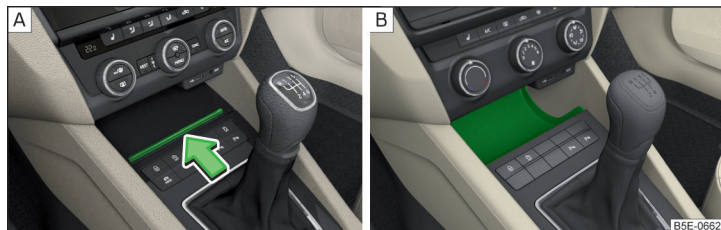

Fig. 80 Opening storage compartment/ non-lockable storage compartment
- » To **open**, press the ridge in the direction of arrow » Fig. 80 - **A**.
Certain models do not have a storage compartment lid » Fig. 80 - **B**.